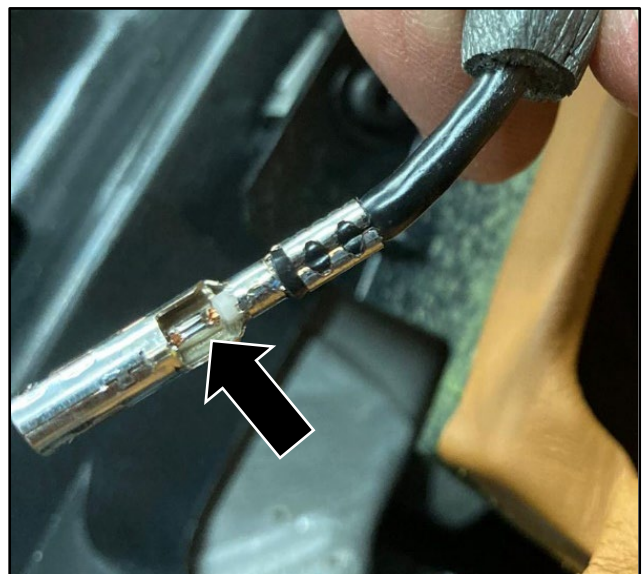

Figure 4
6. Remove the connector from the applicable connector housing (refer to Figure 4).